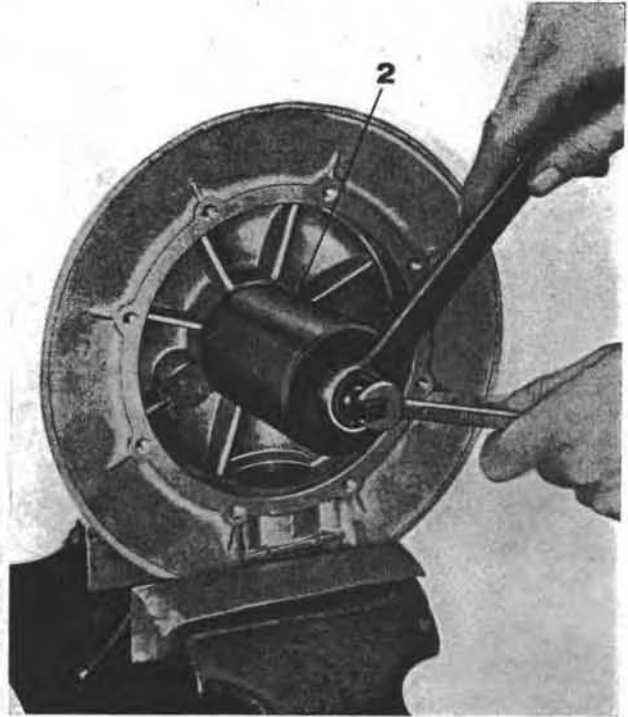

Fig. 90
- remove roller bearing race by means of pulley No. 12906900 (see 2 on Fig. 90).